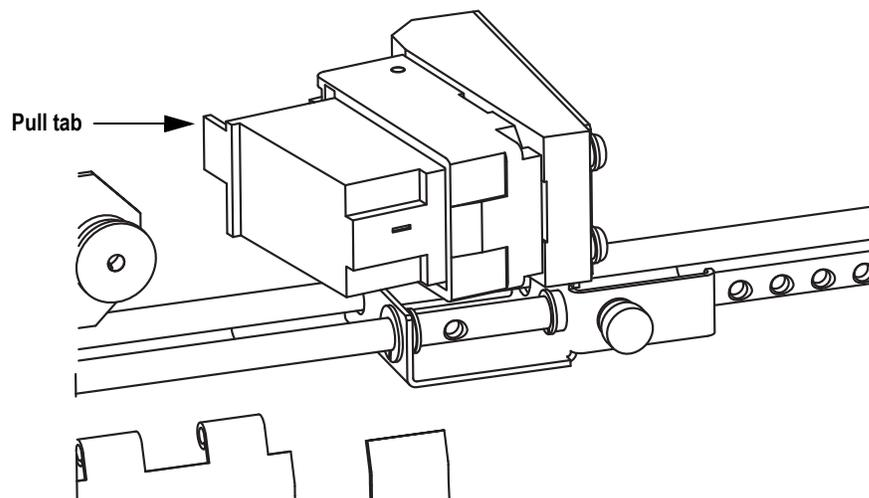

FIGURE 32: Cartridge removal
- 4 Pull the tab on the printer cartridge and rotate the cartridge outward (Figure 32).
You can adjust the vertical print position on documents by moving the printer carriage. The printer carriage is fixed to a shaft with detents that position the printer so it sprays ink through the holes in the paper guide (see Figure 32). A thumb screw holds the printer in the detents. If you do not position the printer in a detent, the thumb screw sticks out, preventing you from closing the paper guide.